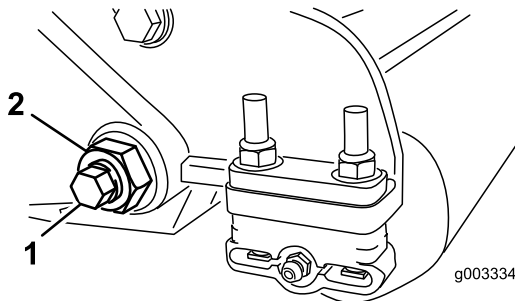

Figure 30
3. On each side of the machine, loosen the locknut securing the bedbar bolt (Figure 30).
4. Remove each bedbar bolt allowing bedbar to be pulled downward and removed from machine bolt (Figure 30).